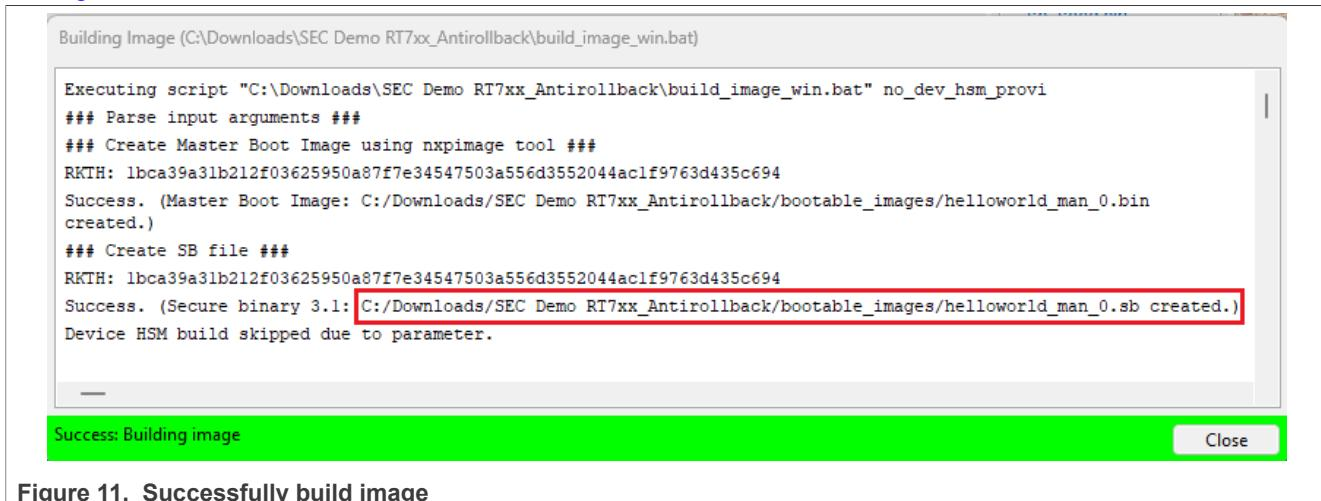

Figure 11. Successfully build image
9. Build the image. The success message shows the location of the generated SB file, as highlighted in Figure 11.